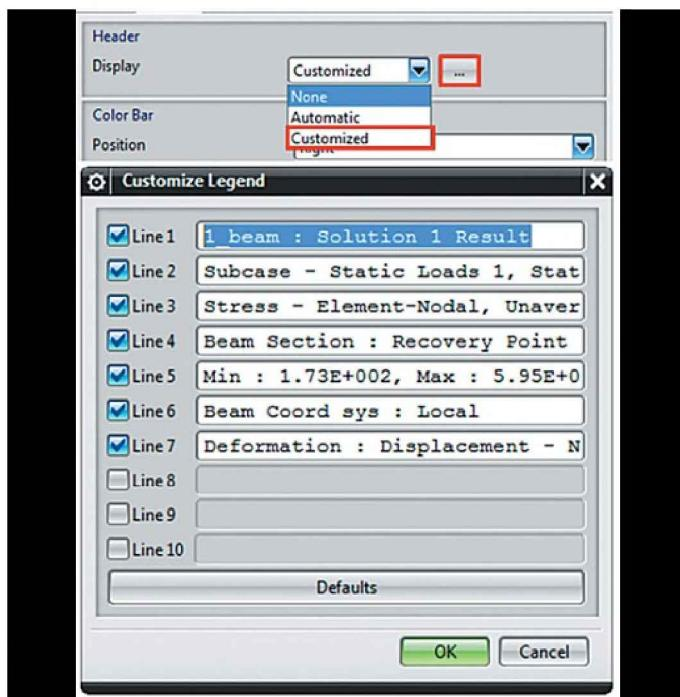

Figure 5.31. Setting up the header display
- Select *Customized* to set up the content of the header (specify the number of lines in the header and the content of each line) (Figure 5.31).